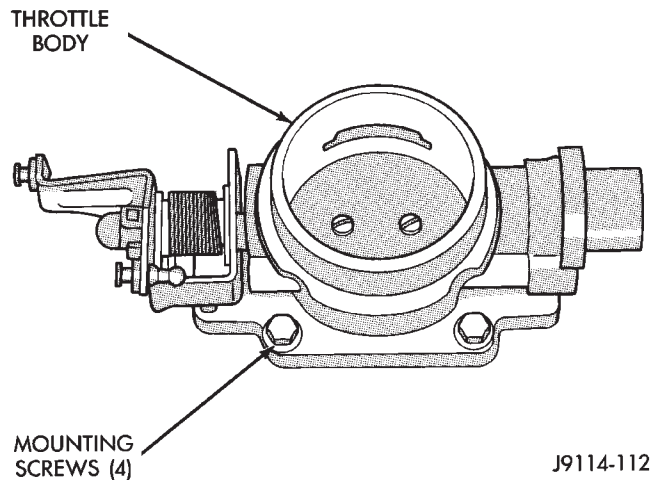

Fig. 15 Throttle Body—Removal/Installation
- (5) Remove throttle body mounting bolts, throttle body and gasket. Discard old gasket (Fig. 15).